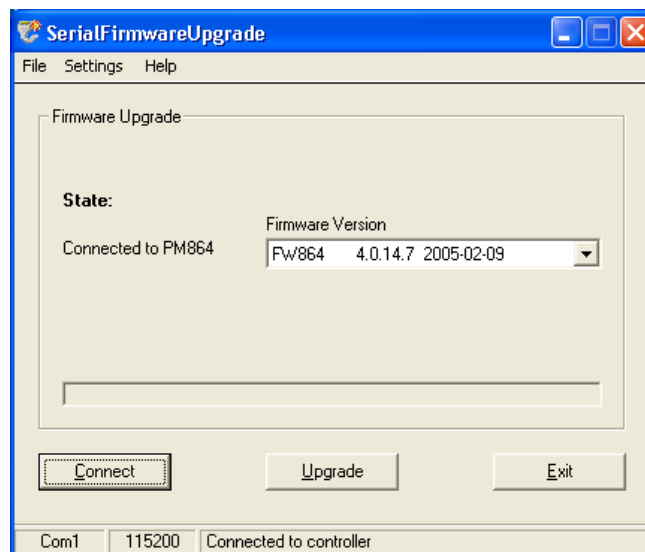

Figure 51. A Firmware version displayed in the text field.
5. Click the **Connect** button and press the **Init** push-button on the PLC until the **Run LED** starts to blink. Wait about a minute until a message appears. If connection was successful, a confirmation text will occur in the Firmware Version text field (Figure 51).